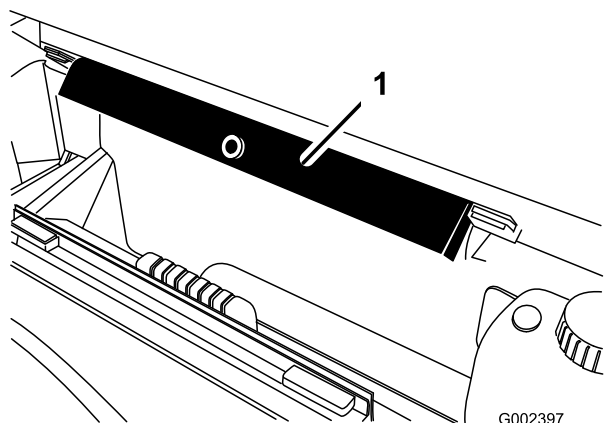

Figure 46
- Remove the bed support from the storage brackets on back of the ROPS panel (Figure 46).